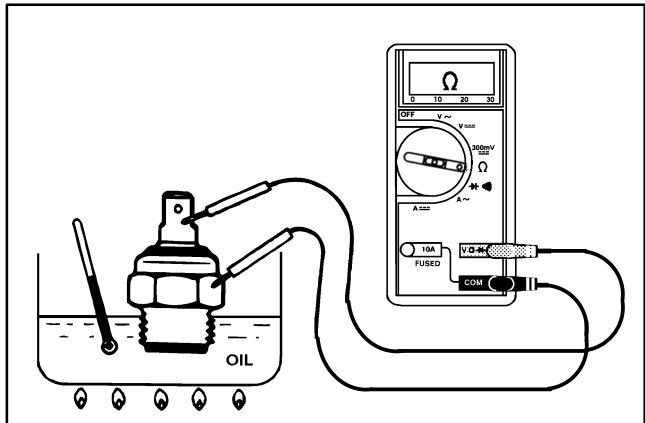

Figure 25
3. Put switch in a container of oil with a thermometer and slowly heat the oil (Fig. 25).